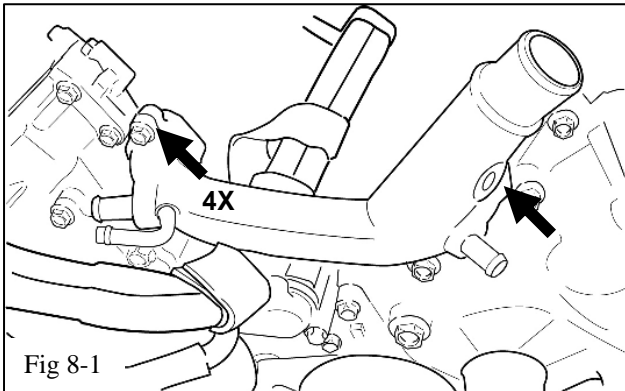

Fig 8-1
- (c) Slide the new TRD supplied water by-pass joint (#4) over the studs and secure with the previously removed 4 nuts (Fig 8-1).
- (d) Install the water temperature sensor (Fig 8-1). **Torque: 20Nm (14ft lbf)** Reconnect the wiring harness.